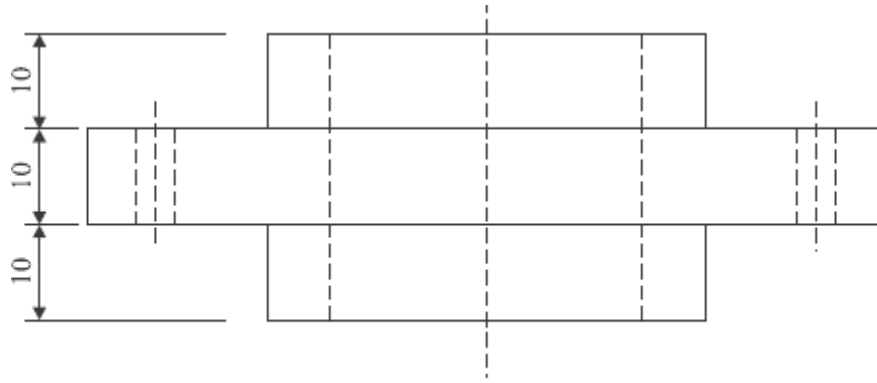

Fig. 5.26
**Example 2:** Calculate the machining time to drill four 8 mm dia holes and one 40 mm dia central hole in the flange shown in Fig. 5.26.